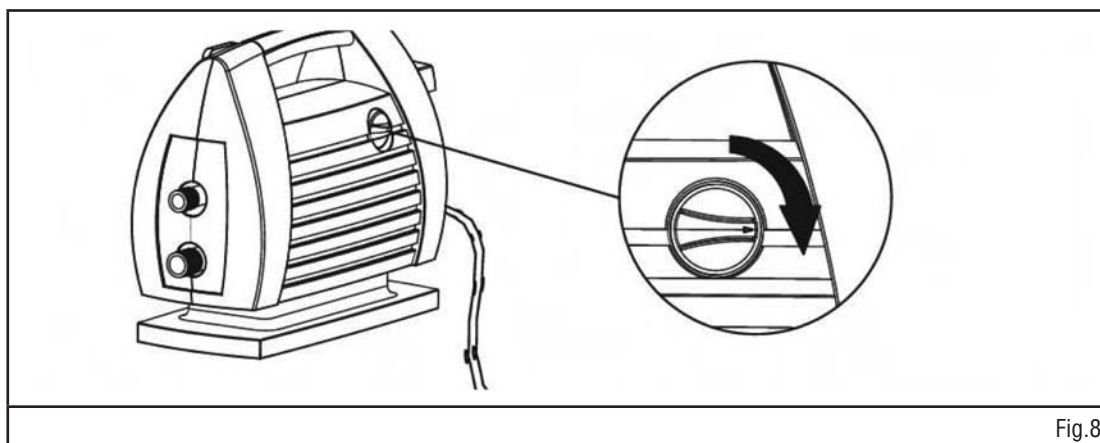

Fig.8
3. Start the pressure washer by turning ON/OFF switch to ON (1) position. (Fig. 8)